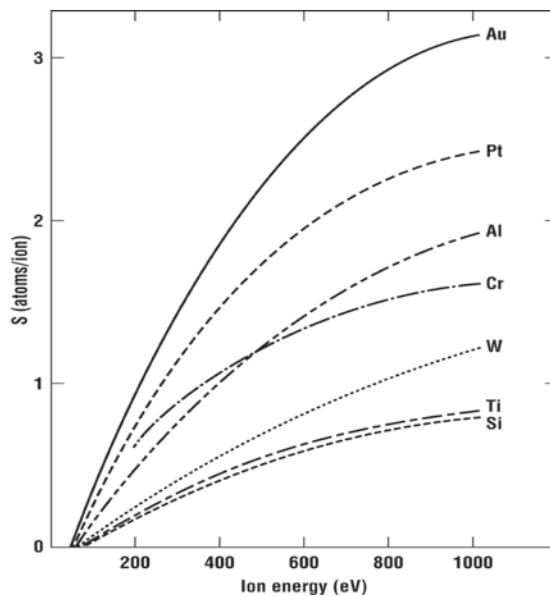

Figure 4: Sputter yield for a variety of materials
- (iv) The dc potential between the plasma and the target in a sputtering system is 523 V. What is the energy of a singly ionized argon atom ( $\text{Ar}^+$ ) will gain while crossing the space between the plasma and the target? Find the sputter yield for an aluminium target based on Figure 4?